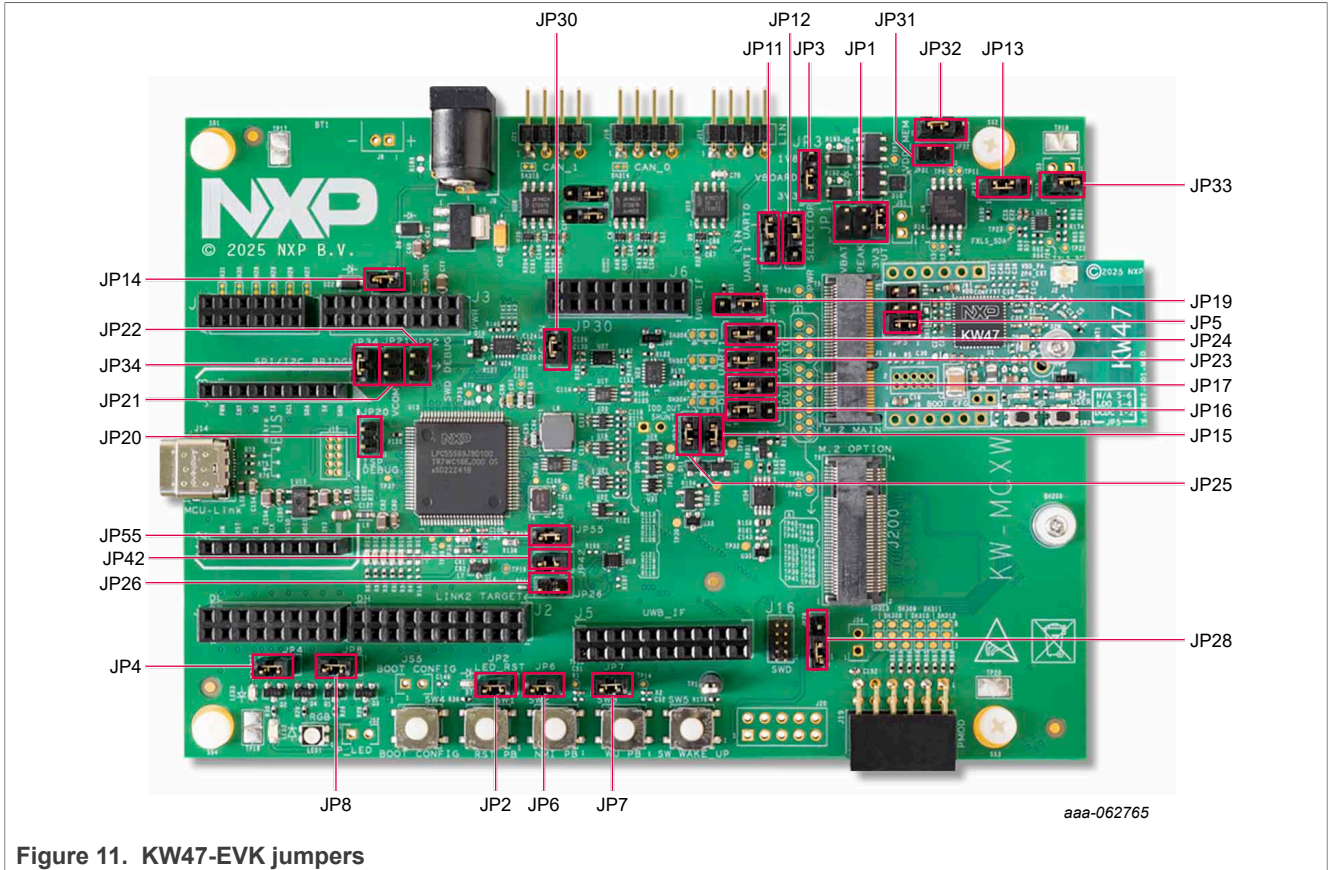

Figure 11. KW47-EVK jumpers
**Note:** Before executing any test, ensure that the board has the jumper configuration given in Figure 11.